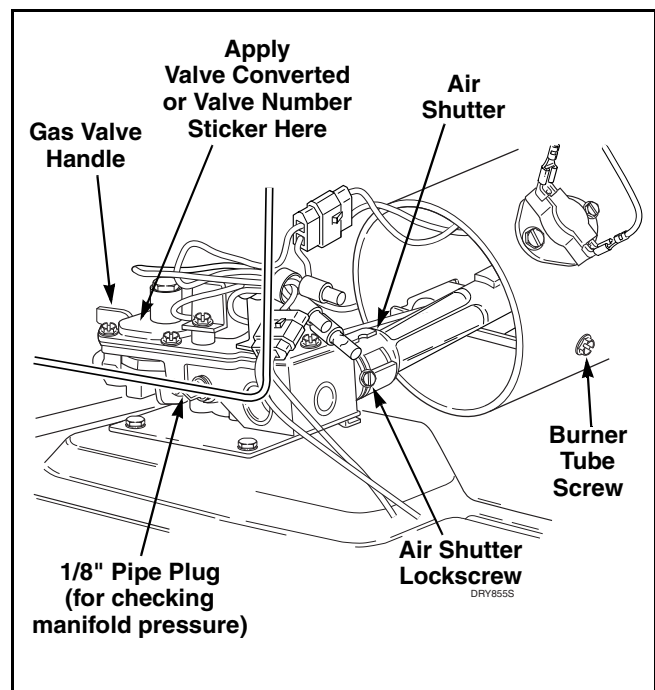

Figure 33
- Allow dryer to operate for approximately five minutes, then open access door and loosen air shutter lockscrew. Refer to *Figure 33*.
- After proper flame is obtained, tighten air shutter lockscrew securely. Refer to *Figure 33*.
Refer to *Figure 33*
- (1) Turn burner orifice spud out of orifice adapter and install No. 51211 L.P. Burner Orifice (metal stamped No. 55).
- (2) Reinstall burner tube, hex head screw and reconnect igniter wires.
- (3) Remove vent screw and install No. 53390 Block-Open Plug.
- (4) Install No. 55753 “Valve Converted” Sticker to top side of gas valve so it covers the gas valve part number. Refer to *Figure 33*.
- (5) Install No. 56426 L.P. Gas Sticker over the old sticker on rear of cabinet, and apply No. 53408 Change-Over Sticker to the inside of the loading door opening above the serial plate.
- (6) Connect electrical service and open valve in gas supply line. Start dryer and observe burner flame. Adjust air shutter to obtain a soft, uniform flame. (A lazy, orange tipped flame indicates lack of air. A harsh, roaring, very blue flame indicates too much air.) Adjust air shutter to obtain a soft uniform blue flame as follows:
- (1) Turn burner orifice spud out of orifice adapter and install No. 50326 Natural Gas Burner Orifice (metal stamped No. 44).
- (3) Remove block-open plug and install No. 53952 Vent Screw.
- (4) Install No. 56414 Valve Number Sticker to top side of gas valve so it covers the gas valve converted sticker. Refer to *Figure 33*.
- (5) Install No. 56427 Natural/Mixed Gas Sticker over old sticker on rear of cabinet, and apply No. 53556 Change-Over Sticker to inside of loading door opening above the serial plate.